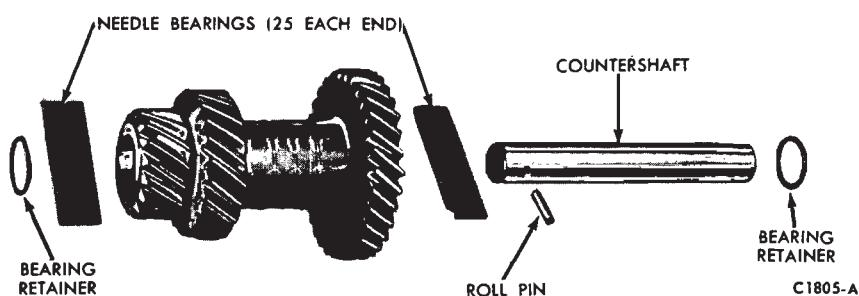

FIG. 21—Countershaft Gear Disassembled
The countershaft (cluster) gear and thrust washers (Fig. 21) can be lowered to the bottom of the case.
1. Remove the dummy shaft, fifty roller bearings, and the two bearing retainer washers from the countershaft gear (Fig. 21).